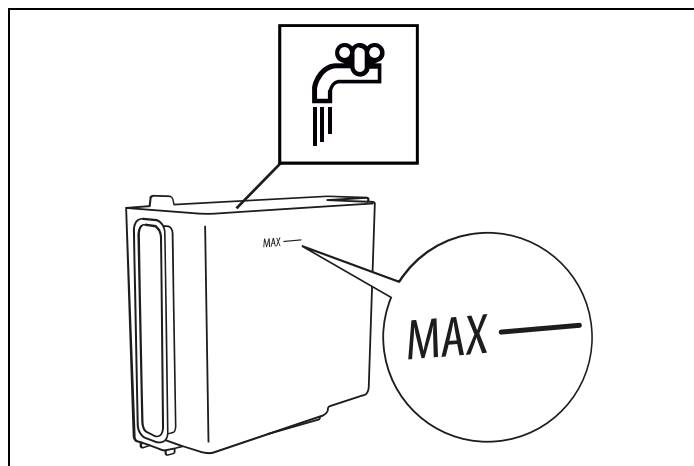

Fig. 57
- 1) **Rinse and fill water tank** (Fig. 57): the appliance is now ready for a fresh water rinsing cycle. Empty the container used to collect the de-scaler solution and extract the water tank, empty, rinse under running water, fill with fresh water up to the MAX level and put back in the appliance;